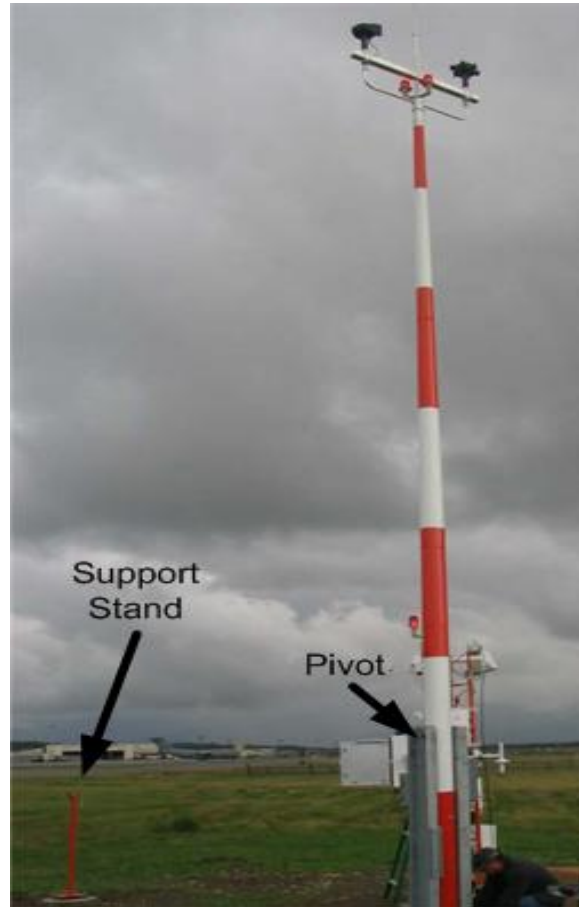

Figure 1-31. 10-Meter Tower and Support Stand
- b. Carefully lower tower about its pivot point until tower rests on support stand (Figure 1-31).